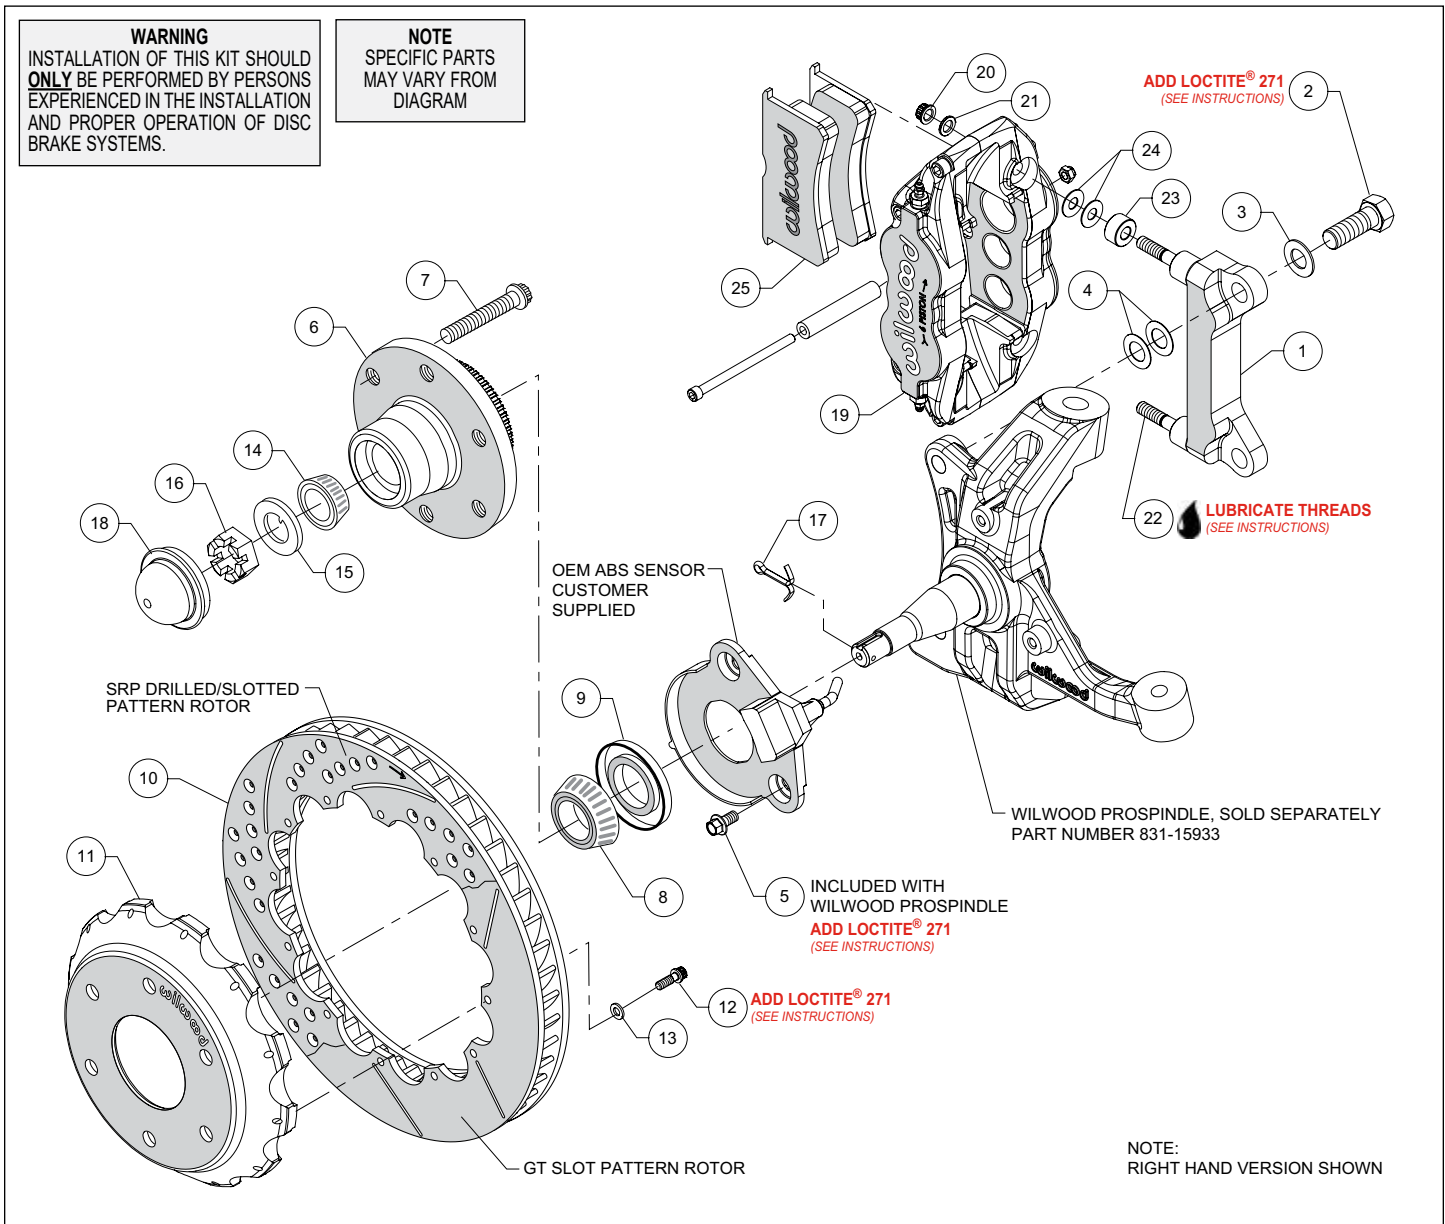
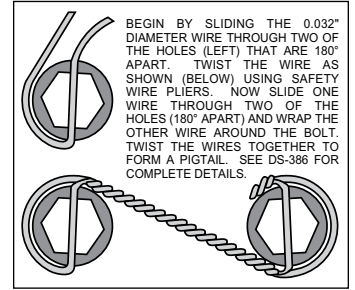

Figure 1. Typical Installation Configuration
Figure 3. Safety Wire Diagram
NOTE: Numbers in parenthesis refer to the parts list and Figure 1 on the preceding pages.
- For vehicles equipped with ABS, install the OEM ABS sensor (customer supplied) to the spindle using bolts (5) as shown in Figure 1 and Photo 3. Temporarily tighten the mounting bolts. **NOTE: The sensor must fit squarely against the mount bosses on the spindle.** Inspect for interference from casting irregularities, machining ridges, burrs, etc. Remove the bolts one at a time and apply red *Loctite*® 271 to the threads, and torque to 20 ft-lb.
- The caliper mount bracket (1) should initially be installed with clean, dry threads on the mounting bolts. Orient the bracket, as shown in Figure 1 and Photo 4, and install using bolts (2) and washers (3). Initially place two .024" thick shims (4) on each bolt between the bracket and spindle, Figure 1. Temporarily tighten the mounting bolts. **NOTE: The bracket must fit squarely against the mount bosses on the spindle.** Inspect for interference from casting irregularities, machining ridges, burrs, etc. Later, after the caliper alignment has been checked, the mount bolts will be secured using red *Loctite*® 271.
- Install wheel studs (7) into the hub (6), Photo 5. Torque to 77 ft-lb.
- Pack the large inner bearing cone (8) with high temperature disc brake bearing grease (available from your local auto parts store) and install into the backside of the hub (6), Photo 6.
- Press the dust cap (18) into the hub (6). **NOTE: Do not hammer center of cap. Install using outer flange only.**
- Orient the rotor (10) and the hat (11) as shown in Figure 1 and Photo 9. Attach rotor to hat using bolts (12) and washers (13). Using an alternating sequence, apply red *Loctite*® 271 to the threads, and torque to 155 **in-lbs**. For an added measure of security, the bolts may be safety wired using standard 0.032 inch diameter stainless steel safety wire as shown in Figure 3. Refer to Wilwood's data sheet DS-386 (available at www.wilwood.com/Pdf/DataSheets/ds386.pdf) for complete safety wire installation instructions.
- NOTE: This kit contains distinct right and left hand calipers that must be mounted in a specific direction, as described below.** Lubricate the caliper mounting studs (22) with lightweight oil. Initially place two .035" thick shims (24) and one spacer (23) on each stud between the caliper and the bracket, as shown in Figure 1 and Photo 11. Mount the caliper (19) onto the bracket (1) using lock nuts (20) and washers (21), Figure 1. Temporarily tighten the lock nuts. Ensure that the caliper is mounted so that the largest pistons are at the rotor exit end of the caliper, in relation to the direction of rotor rotation. View the rotor through the top opening of the caliper. The rotor should be centered in the caliper, Photo 12. If not, adjust by adding or subtracting shims (4) between the bracket and the spindle. Always use the same amount of shims on each of the two mounting bolts. Once the caliper alignment is correct, remove the bracket mounting bolts one at a time, apply red *Loctite*® 271 to the threads, and torque to 140 ft-lb.